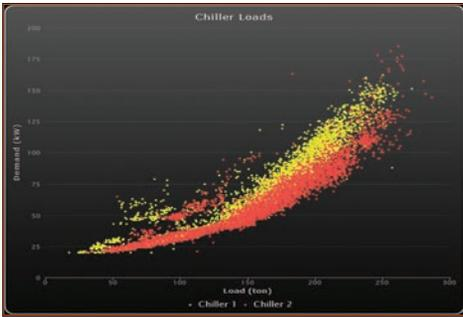

Figure 4: kW vs Cooling Load for two identical chillers.
**3. Consider using scatter plots:** Not all BAS systems offer scatter plots, but if your system includes them they can be a very useful tool for analyzing some systems. Figure 4 shows a scatter plot of the electrical demand (kW) vs the cooling load (tons) for two identical chillers. Performance of the two chillers was similar enough that looking